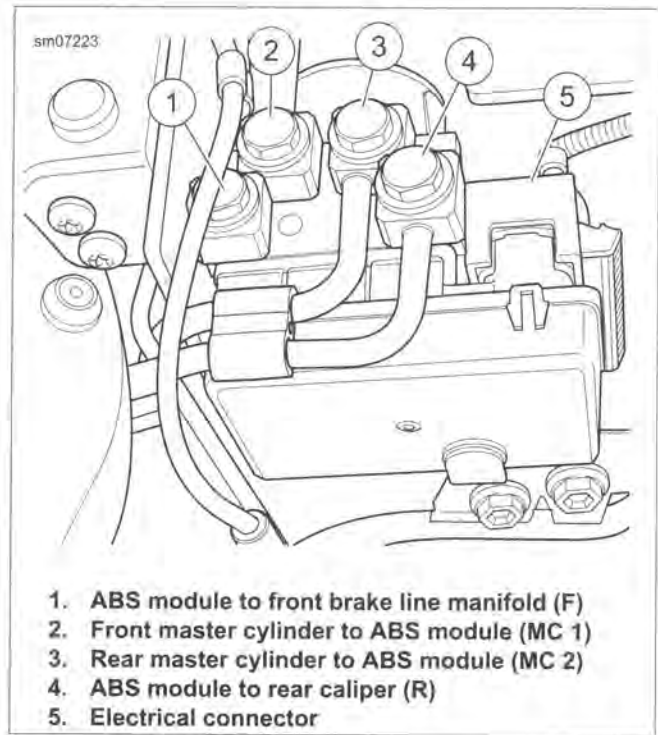

Figure 2-77. ABS Module Connections
6. See Figure 2-77. Disconnect ABS module electrical connector (5).
9. See Figure 2-77. Remove four banjo bolts to release brake lines from ABS module. Discard sealing washers.
4. See Figure 2-77. Loosely install banjo fittings to their respective ports on the ABS module using **new** sealing washers.